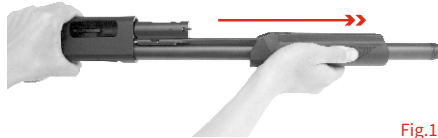

Fig.19
3. Remove the forend and action bar assembly (Fig.19).